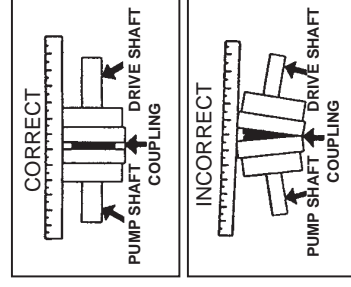

FIGURE 5
7. To assure parallel alignment (Figure 5) place a straight edge along the side of